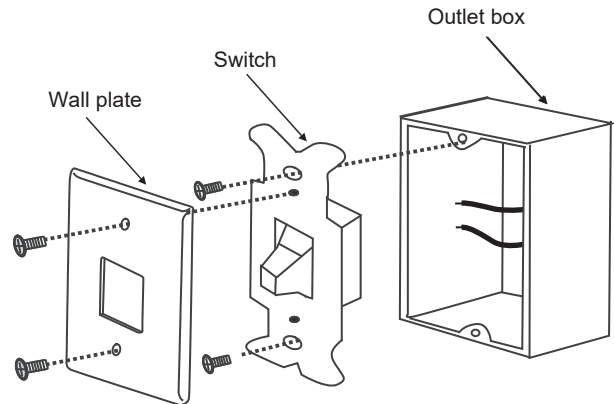

Figure 18
a. Remove the existing wall plate and the old switch from the wall outlet box. Wire nut the BLACK leads (hot) together and push back inside the outlet box. (Fig. 18)
Remove the panel from the transmitter and then install one 23A/12V battery (included). To prevent damage to transmitter, remove the battery if not use for long periods of time. (Fig. 18)
3. Within 30 seconds of turning AC power on, press and release the "SET" button five seconds to enter the learning function. The down light of your fan, if applicable, will blink twice, and the fan will automatically begin to operate and start to rotate in counterclockwise direction and on the highest RPM for 1 minutes. When counterclockwise rotation has finished, the fan will automatically reverse to clockwise direction again to the highest RPM for 1 minutes. Fan will shut off when the self-calibration test has finished. The total self-calibration test will last about 2 minutes. (Fig. 18)